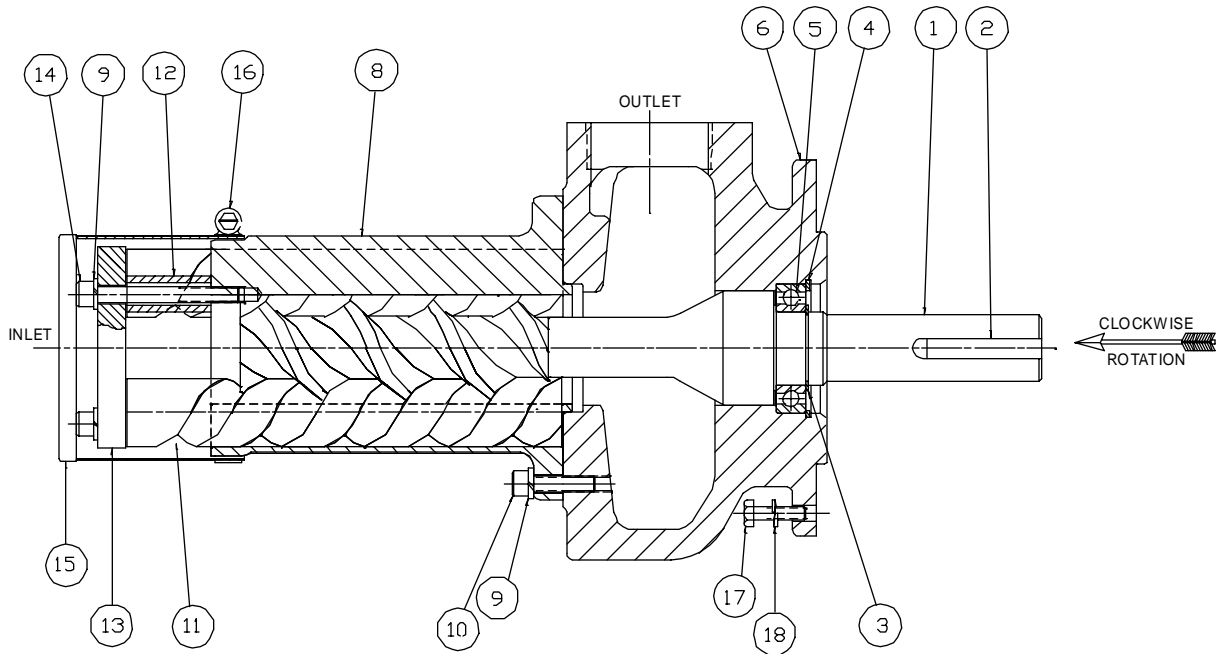

Figure 2. Assembly Drawing for 3SIC-187, -200 and 4SIC-187, -200 Series Pumps
- Part number identifiers (IDPs) contained within parenthesis such as (8) refer to the circled numbers shown on Assembly Drawings, Figures 2 and 3.
1. Using Figure 2, torque bolts (10) to  $18 \pm 2$  lb. ft.